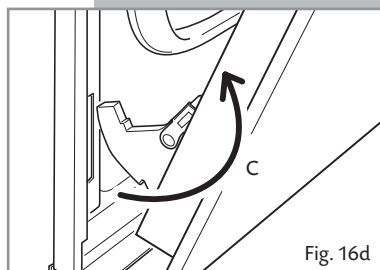

Fig. 16d
- Withdraw the hinge hooks from their location following arrow **C** (fig. 16d).